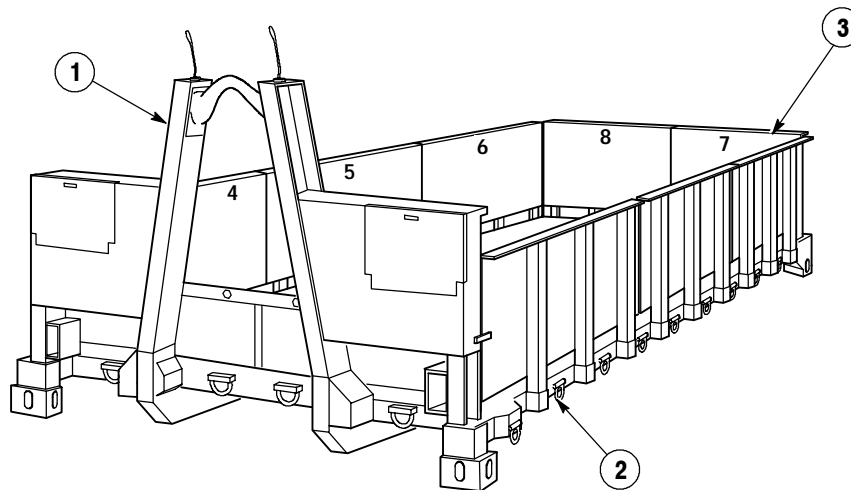

Figure 1-29. Palletized Load System Flatrack (FR)
The Flatrack (FR) (1) (Figure 1-29) accommodates a 33,000 lb. (15 metric tons) nominal payload during all modes of transportation and during all specified load/unload operations. The FR is designed to withstand the dynamic and static loads imposed while fully loaded during LHS load/unload operations. The FR has an empty weight of 3250 lb. (1476 kg) without sideboards. The FR can accommodate palletized, break bulk and 20 ft. (6.1 m) ISO container payloads. Tiedowns (2) and sideboards (3) are used to contain and hold cargo. Refer to TM 9-3990-206-14&P for Unit, Direct Support and General Support Maintenance for the PLS Flatrack.